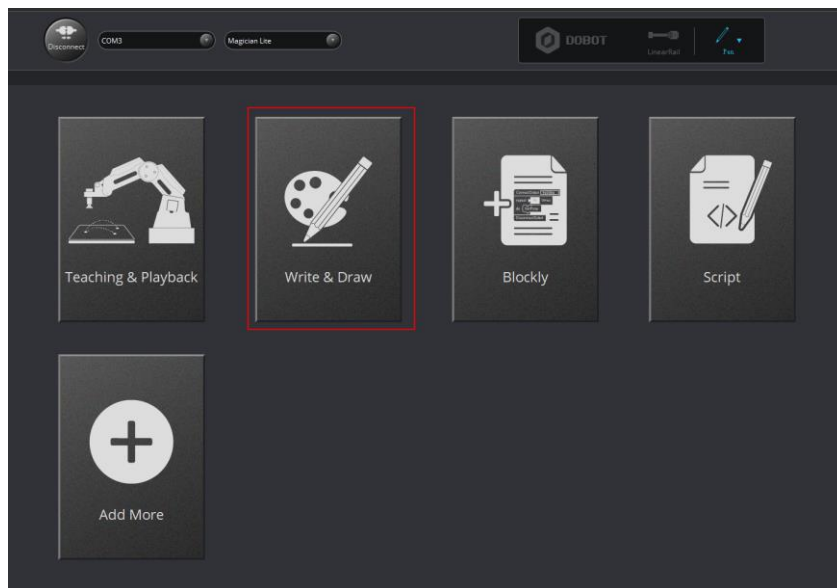

Figure 5.40 Click Write & Draw
**Step 1** Click **Write & Draw** on the **DobotStudio** page, as shown in Figure 5.40.